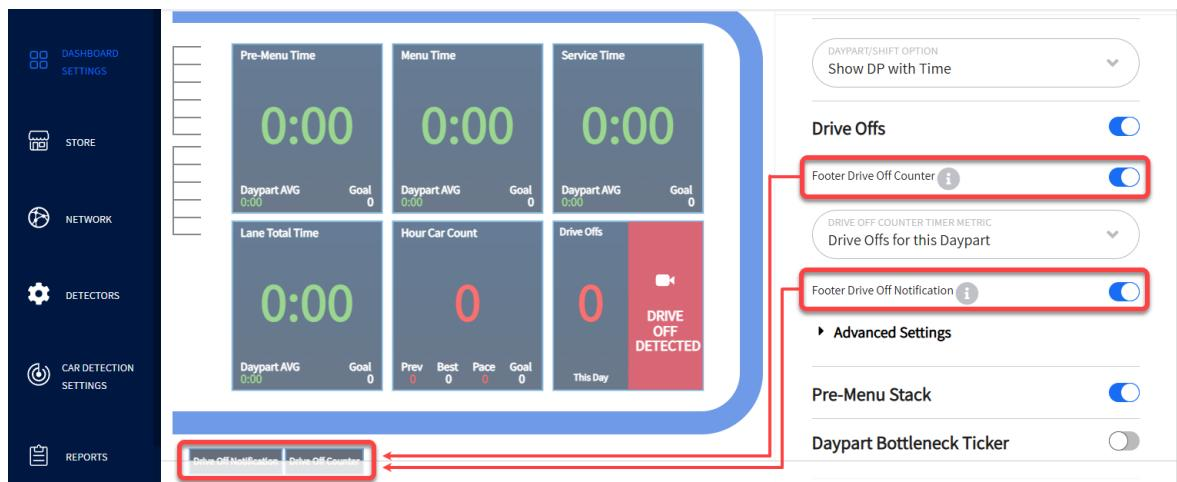

Fig. 3.8
**Footer Drive Off Counter:** Under **Lane Settings**, enable this to see how many drive-offs you have within a specific time period (half hour, hour, daypart, or day). These time periods are selected from the drop-down list of the DRIVE OFF COUNTER TIMER METRIC field. This counter appears below the lane and data section graphics as shown in Fig. 3.8.